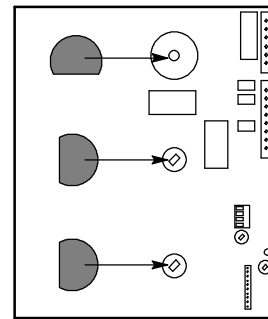

fig. 49
- 4 position the spindles as in fig. 49 and mount the panel cover.